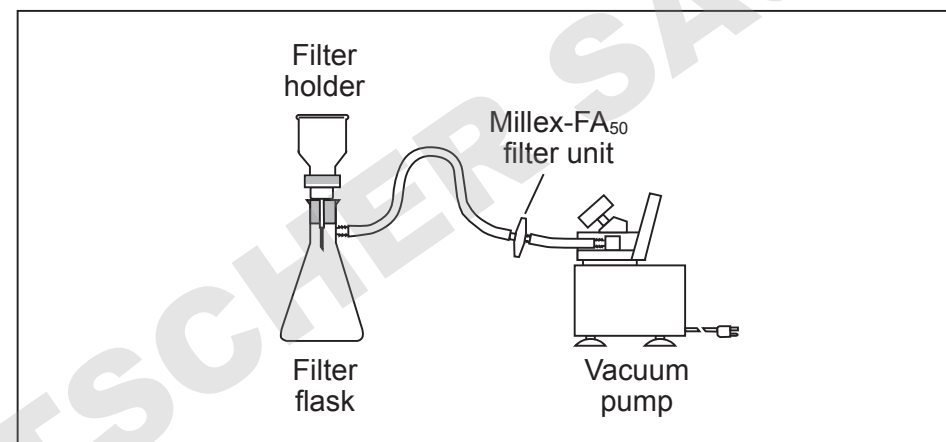

Figure 1. Proper use of Millex-FA₅₀ filter
CAUTION: Always use the supplied hydrophobic vent filter or a vacuum-flask water trap in conjunction with the pump (see Figures 1 and 2). Never pump or draw liquids through the pump, as this will damage it.
- Always use the Millex-FA₅₀ vent filter and 1/4 inch silicone tubing included with the pump when applying vacuum. This will prevent liquids or vapors from entering the pump. A properly attached Millex-FA₅₀ vent filter is illustrated in Figure 1.
CAUTION: During vacuum filtration, use the supplied Millex-FA₅₀ hydrophobic vent filter, to prevent excessive amounts of liquids or mist from entering the pump (figure 1). For maximum protection, use a vacuum-flask water trap (figure 2).